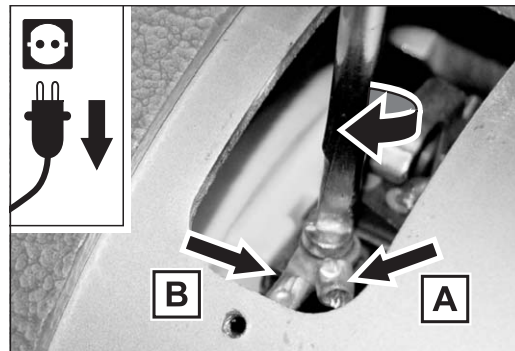

Fig. 54 Tighten down the cable of the carbon brush (A) and the cable of the motor winding (B).
- 7 Tighten down the cable of the carbon brush (fig. 54, **A**) and the cable of the motor winding (fig. 54, **B**).